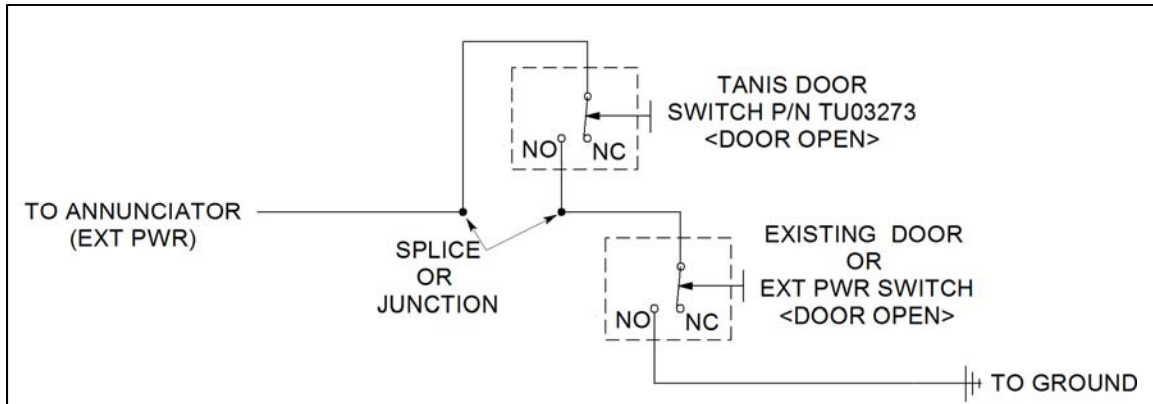

Figure 6.3. Example of Series door switch wire diagram (Normally Open when door open).
- Connect switch into existing door circuit refer to Figures 6.3. and 6.4.